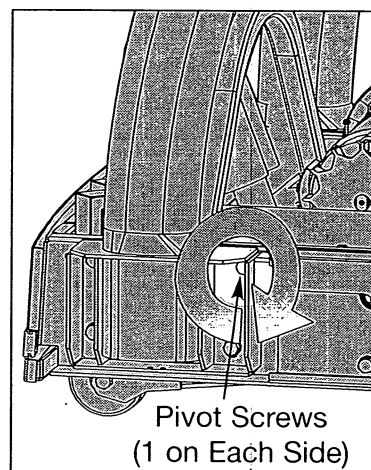

Figure 6
- C. Tighten all 9/16" screws used during steps 7A and 7B including the two pivot screws (one on each side). See Figure 6.